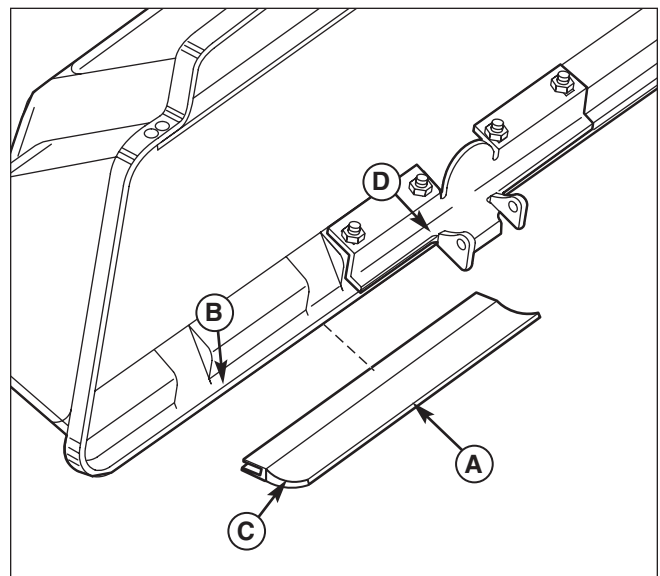
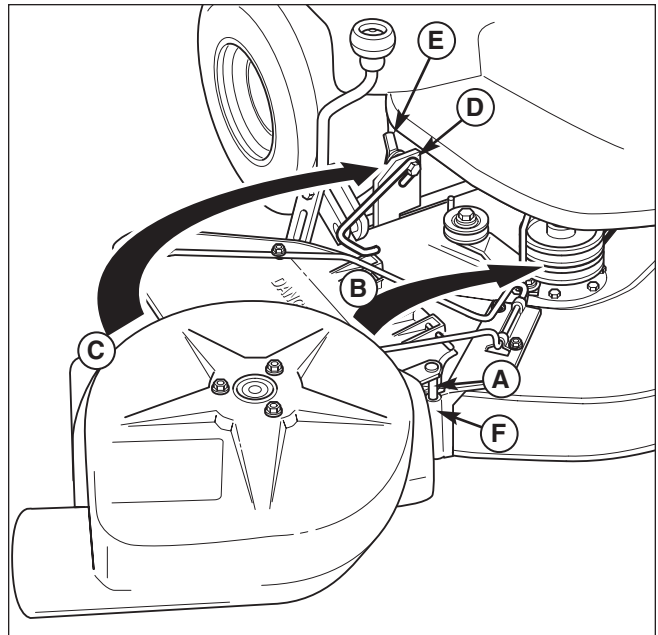
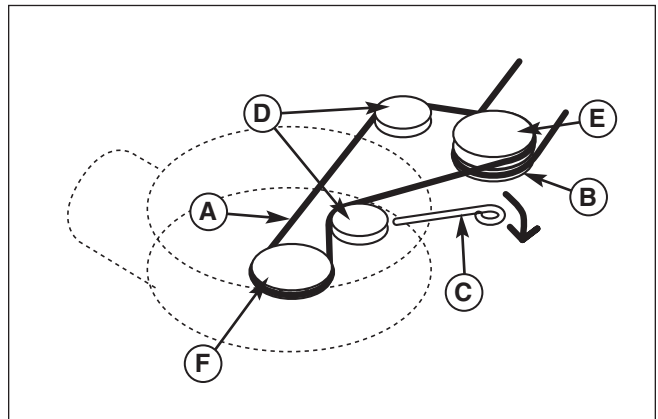
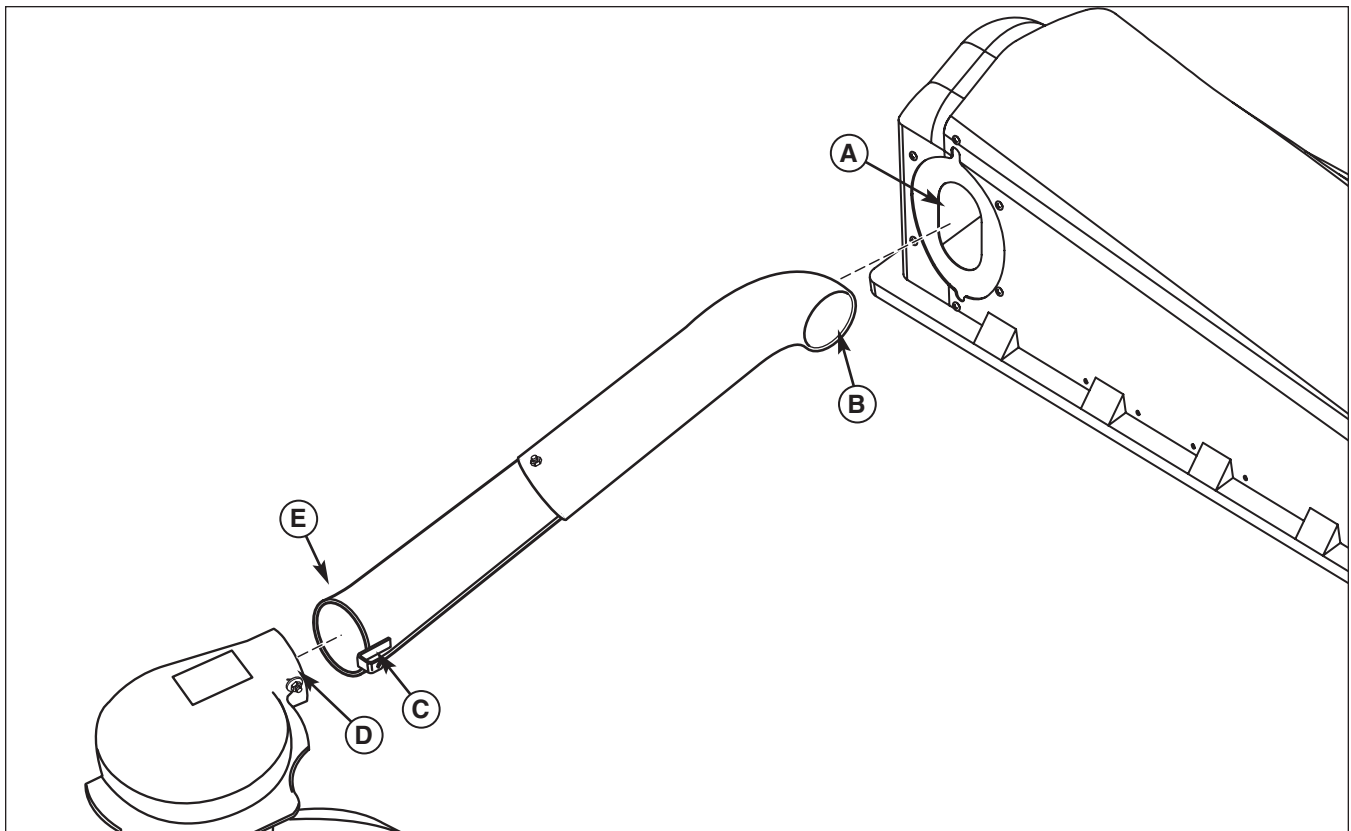

Figure 30. Install Thin Edging
Figure 36. Install Turbo Blower
Figure 37. Turbo Belt Routing
Figure 38. Connect Tube to Hood and Turbo
1. From the inside of grass catcher slide the thin seal (A, Figure 30) onto the cover edge (B) starting at the LH side of the hinge edge (D) so that the inside curl (C) is toward the inside of the cover .
2. Slide the pivot pin (A, Figure 36) into pivot bracket (F).
3. Raise the deflector (B).
4. Rotate the turbo (C) and "latch" the slot in the turbo housing over and onto the anchor bracket (D). Tighten the wingnut (E) to secure turbo (C).
5. Pull back (away from deck) on belt tension lever (C, Figure 37).
6. Install the turbo drive belt on pulleys as shown and release the belt tension lever (C).
8. Slide the discharge end of tube assembly (A, Figure 30) through the seal (A). This may require some rotating or turning of the discharge end of tube assembly.
9. Slide the intake end of tube assembly (E) over the turbo aligning clip (C) and nut and capscrew (D).
10. Lift clip (C) over nut and capscrew (D) to secure tube to turbo.
2. Lift clip (C, Figure 38) over nut and capscrew and disconnect turbo from intake end of tube assembly.
3. Slide the intake end of tube assembly (E) out of seal (A) and remove tube assembly.
5. Pull belt tension lever (C, Figure 37) away from the discharge opening to remove tension from the belt. Remove turbo drive belt.
6. Loosen wing nut (E, Figure 38) and lift deflector (B). Rotate turbo (C) away from mower deck and remove.